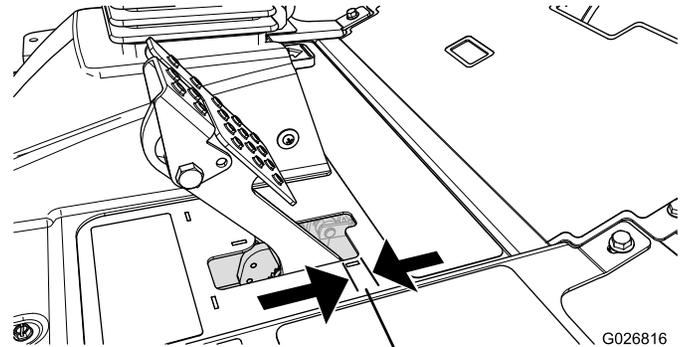

Figure 45
Adjust the brakes when there is more than 2.5 cm (1 inch) of free travel (Figure 45) of the brake pedal, or when more holding force is required. Free travel is the distance the brake pedal moves before you feel braking resistance.
2. Tighten the rear nut to move the cable backward until brake pedals have .63 to 1.27 cm (1/4 to 1/2 inch) of free travel (Figure 45), before wheel lock up is achieved.